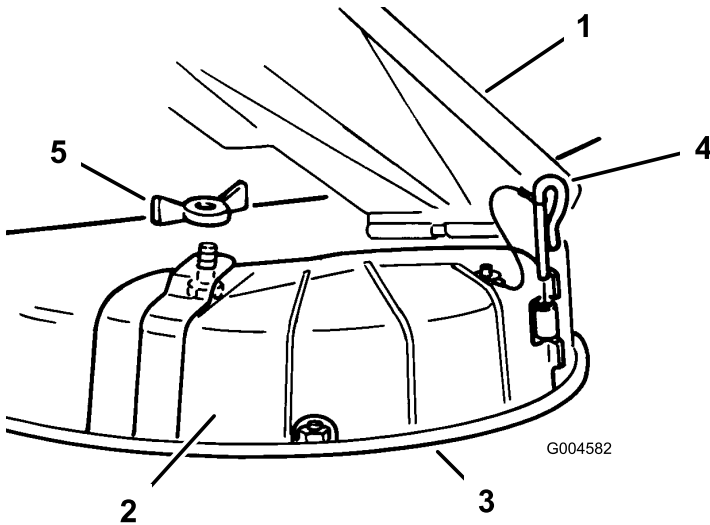

Figure 18
3. Remove the wing nut and bolt securing the cover in place (Figure 18).
4. Remove the hinge pin securing the cover to the deck (Figure 18).
3. Lift the grass deflector and place the discharge cover over the opening onto the lower lip of the mower and slide it into the front hinge (Figure 18).
4. Slide the hinge pin through the hinge (Figure 18).
5. Secure the discharge cover to the mower with the wing nut (Figure 18).